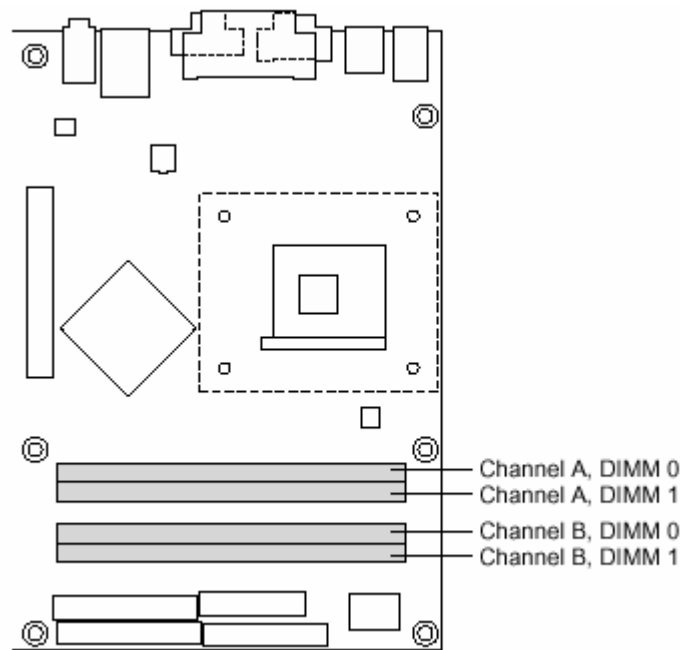

Figure 3. Memory Channel Configurations
- Dual Channel memory interface. The board has two memory channels, each with two DIMM sockets, as shown in Figure 3